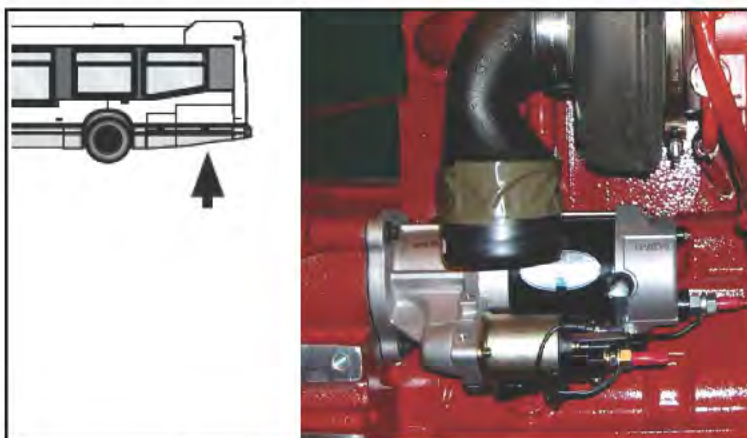

Figure 3 - Location of Engine Starter
- 1.4. Locate and open the side engine access door to access the engine starter (see Figure 3).